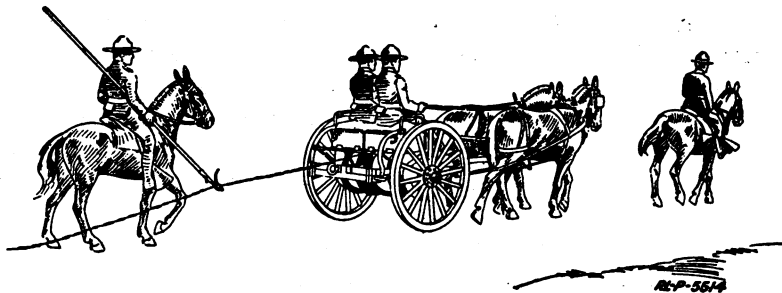

Fig. 28.—Laying wire with a two-horse wire cart
1. *Noncommissioned officer in charge of detail.*—Make sure that the wire on the reels of the wire cart is O. K. before starting to lay a circuit. Indicate the place where the line terminal strip is to be installed to which the circuit is to be connected. See that the wire is properly anchored, connected, and tagged, and then move out over the route, directing the cart driver to follow. (Fig. 28.)